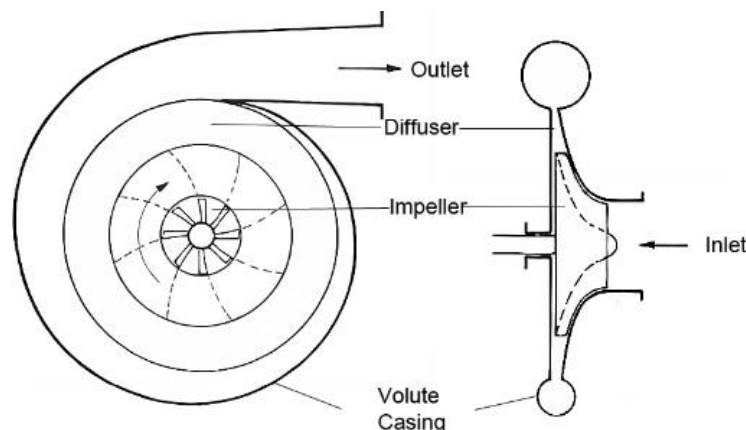

Fig.4.9 Centrifugal Compressors
- ▶ The schematic of centrifugal is shown in Fig.4.9. This type of multi-stage application is often used in the oil and gas and process industries.